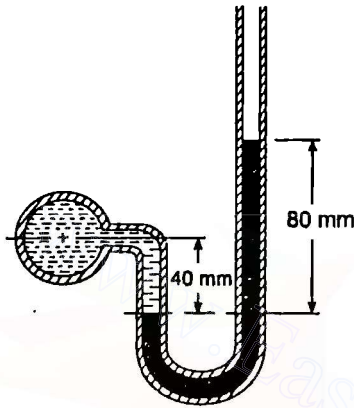

Fig. 2-13.
2. The pressure of water in a pipeline was measured by means of a simple manometer containing mercury. The reading of the manometer is shown in Fig. 2-13. Determine the static pressure of water in the pipe in terms of (i) head of water in metres and (ii) kPa. Take usual specific gravities of mercury and water. [Ans. 1.05 m; 10.3 kPa]